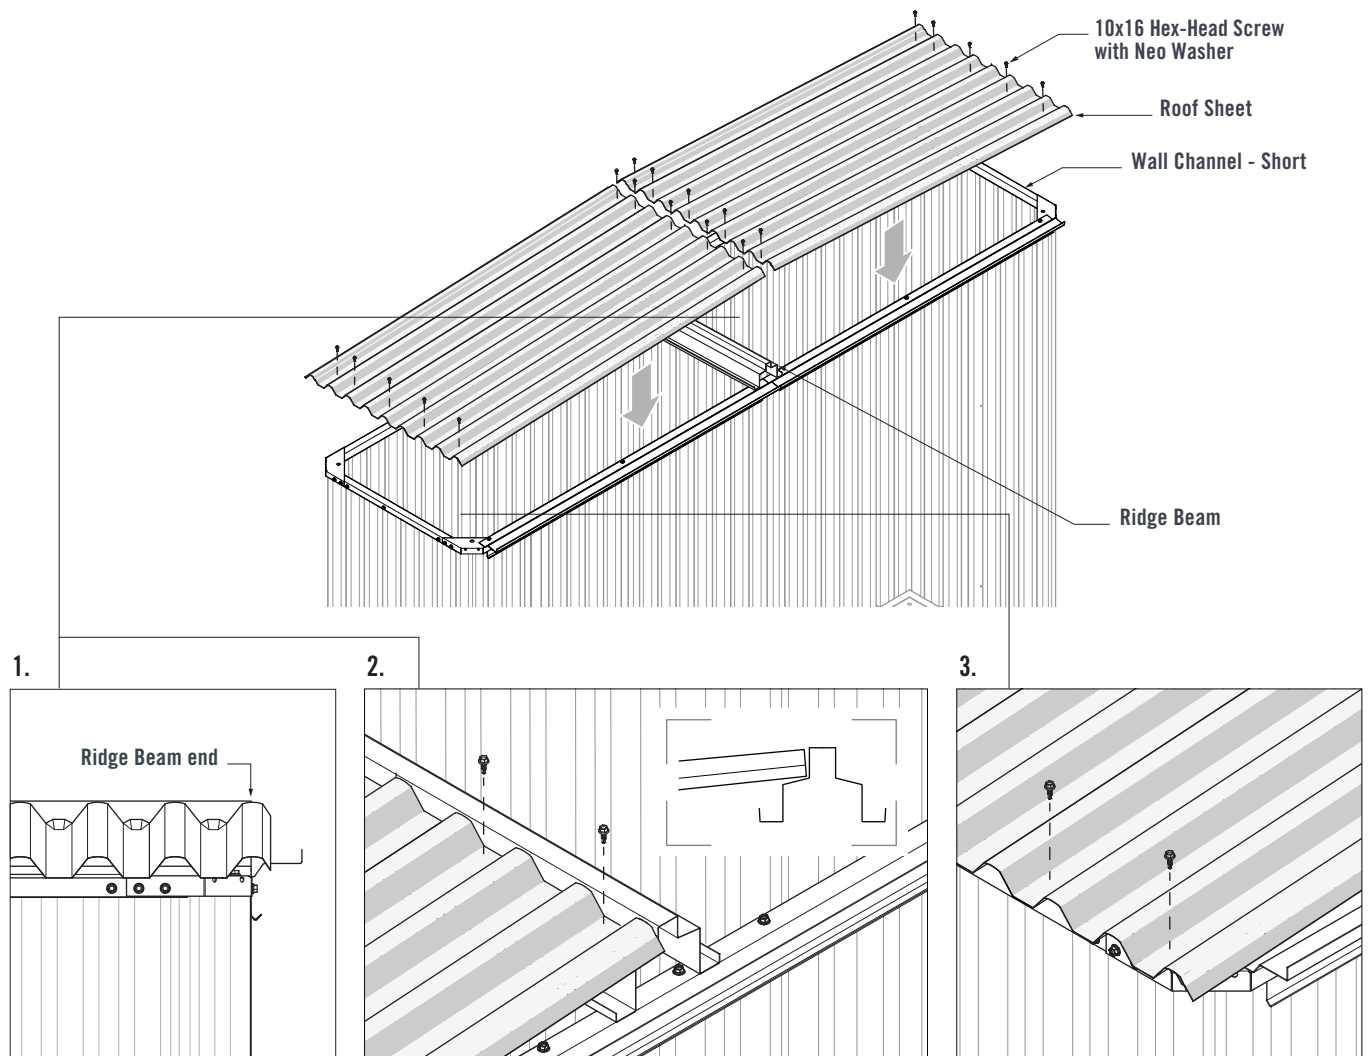

FIGURE 9.3
Lay a Roof Sheet onto the Ridge Beam and Wall channel (Short), ensuring the overlap end of the Roof Sheet is facing the front of the shed (Figure 9.3).
1. Ensure the middle of the Roof Sheet crest is in-line with the end of the Ridge Beam (Figure 9.3)
2. Ensure the Roof Sheet is hard against the step of the Ridge Beam. Fasten five 10x16 Hex-Head Screws with Neo Washers through the pans of the Roof Sheet and into the Ridge Beam (Figure 9.3).
3. Fasten five 10x16 Hex-Head Screws with Neo Washers through the pans of the Roof Sheet and into the Wall Channel (Figure 9.3).